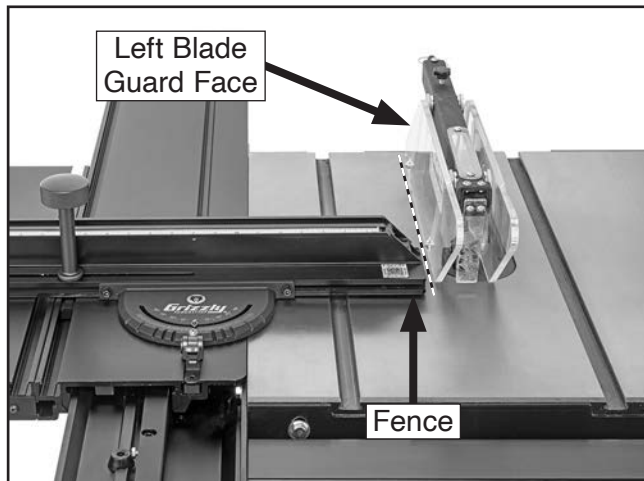

Figure 19. Fence clearing left blade guard face.
40. Slide fence left until it just clears left blade guard face (see **Figure 19**), then tighten (2) button head cap screws installed in **Step 38** and tighten fence pivot knob.